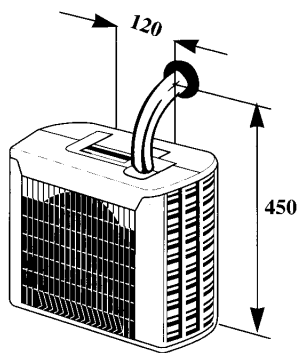

Figure 8
2. After you have decided where to position the outdoor unit, make a 50 mm diameter hole in the perimeter wall (see figure 8).